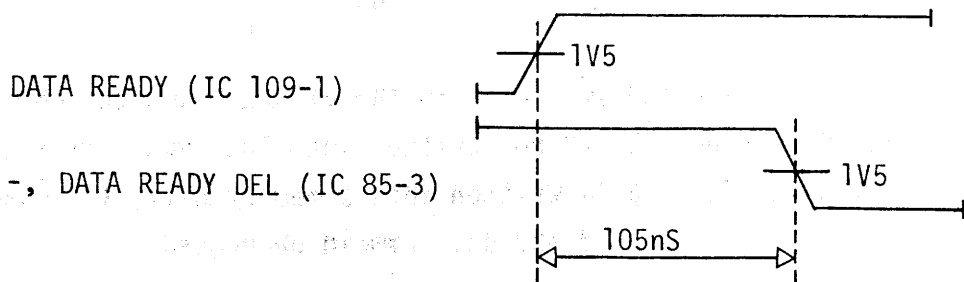

FIGURE 4.5
3. Adjust delay according to Figure 4.5